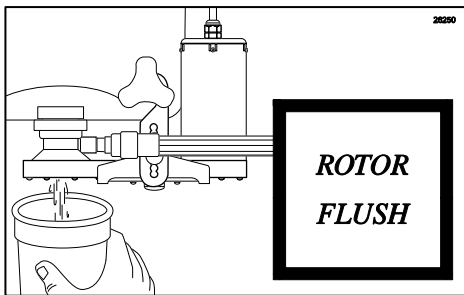

Figure 79
- When no additional syrup lines remain, press the ROTOR FLUSH key to clean the Injector Head to complete the procedure. (See Figure 79.)